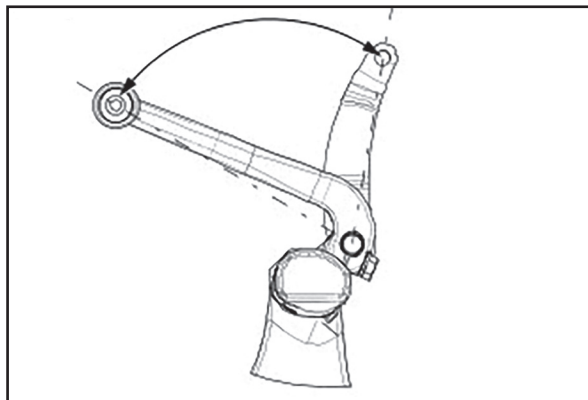

Figure 4. Shift lever assembly angle
- a. Install first small O-ring (11) onto shaft of shift rod lever (9).
- b. Install shift rod lever through hole in left foot support bracket (10).
- c. Install second small O-ring (11) onto shaft of shift rod lever.
- d. Install nylon washer (5) onto shaft of shift rod lever.
- e. See Figure 4. Align shift lever with shift rod lever at an angle of 65–75°.